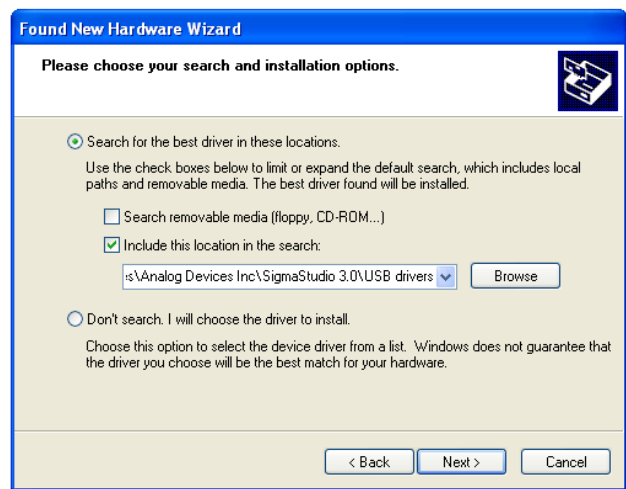

Figure 4. Found New Hardware Wizard—Search and Installation Options
2. Click **Search for the best driver in these locations**, select **Include this location in the search**, and click **Browse** to find the USB drivers subdirectory within the SigmaStudio directory (see Figure 4).